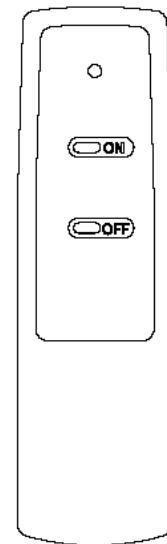

FIGURE 1
5. Press the **ON** button on the transmitter (Figure 1). the indicators will now flash rapidly and then turns off.